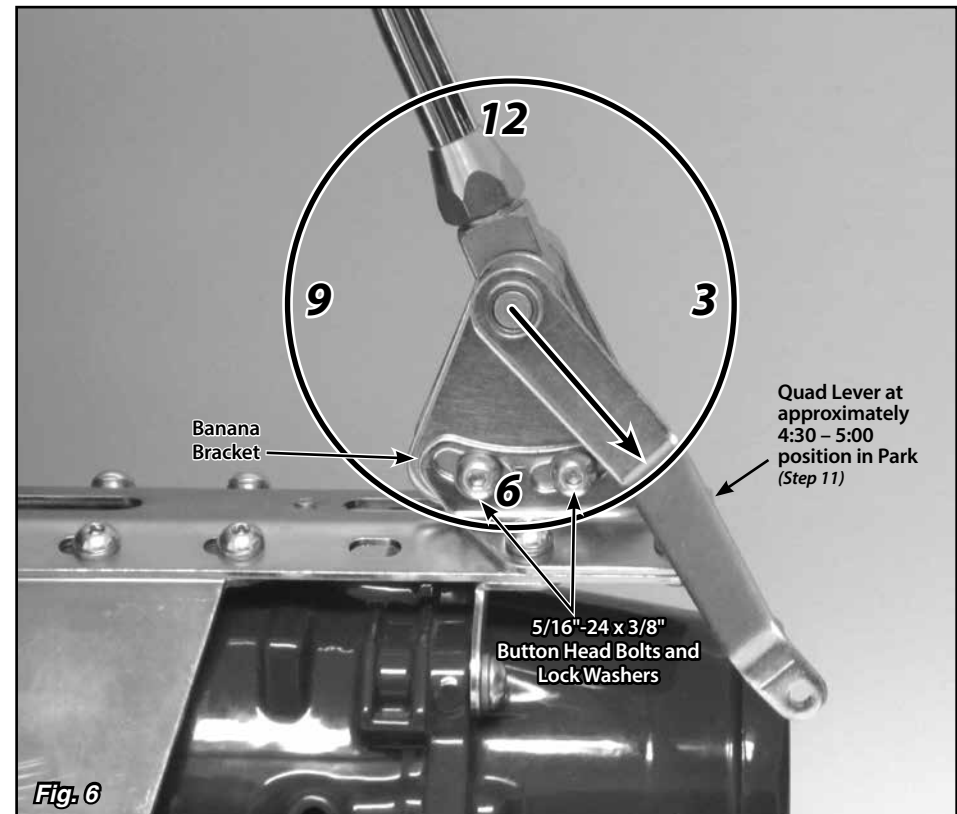

Fig. 6
**Step 10:** Make sure the two 5/16"-24 x 3/8" button head bolts that attach the left side banana bracket to the shifter assembly (in the curved, slotted holes) are tight. Before tightening the shifter assembly down to the main plate, move the shifter lever through all of the gear positions. Make sure that the shifter lever and knob do not come in contact with the dash or the seat. The shifter assembly can be tilted forward or backward if needed by loosening the 5/16"-24 x 3/8" button head bolts in the curved, slotted holes in the left side banana bracket. **Fig. 6**
**Step 11:** Put the Shifter into the Park position and check the position of the quad lever. It will need to be pointing to about the 4:30 – 5:00 position. If it is not, loosen the set screw in the top of the quad lever with a 1/8" Allen wrench and slide the quad lever off of the shaft. Reposition it on the shaft at approximately the 4:30 – 5:00 position, and retighten the set screw. **Fig. 6**
Double check to make sure that the bolts connecting the **left** side banana bracket to the shifter assembly are tight. **Fig. 6**